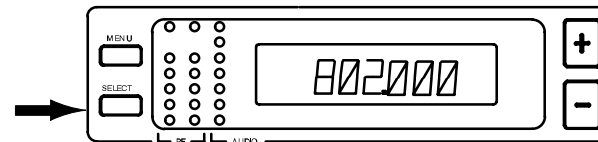

FIGURE 18
3. Press the SELECT button. The current operating frequency will be displayed, as shown in Figure 18.